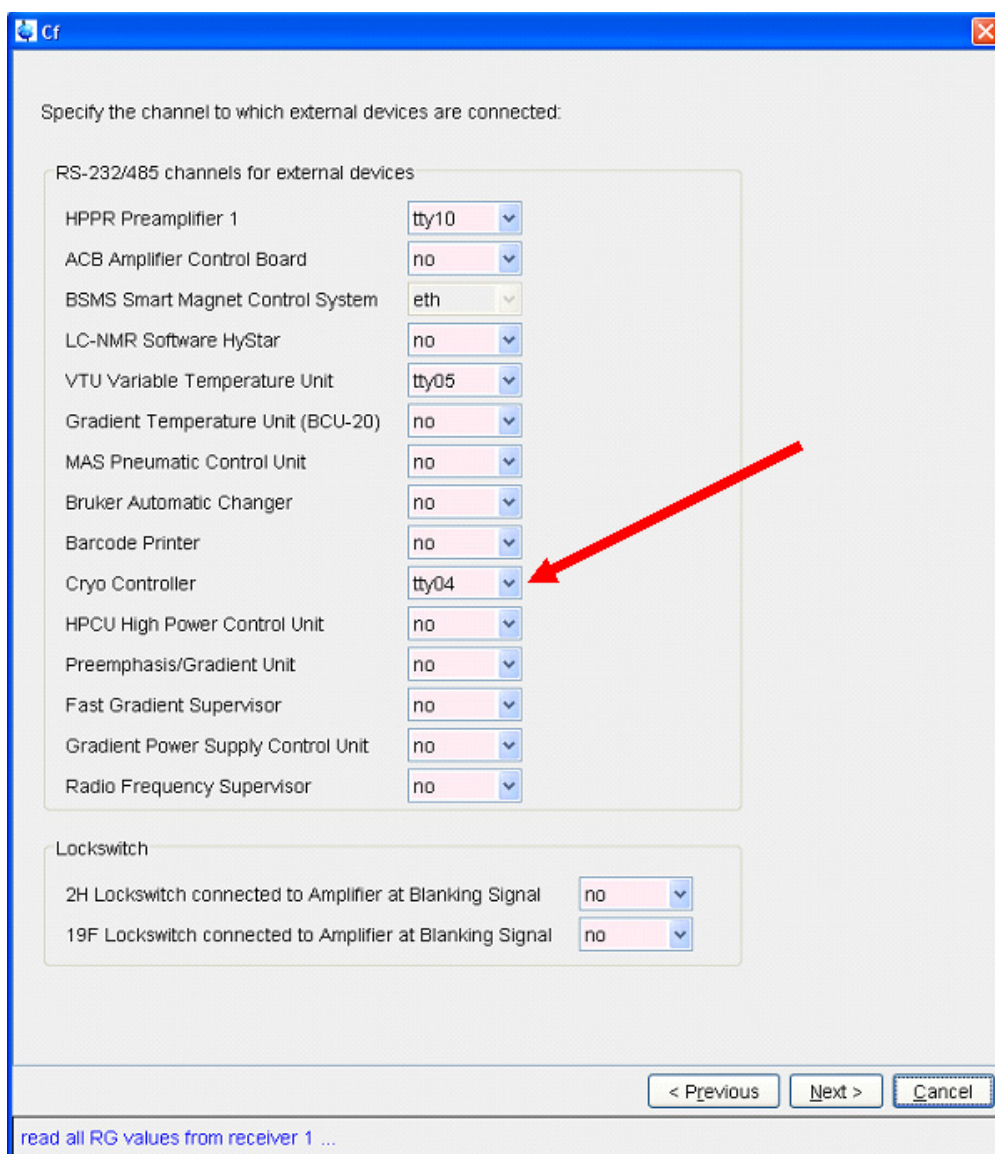

Figure A.1. External Device configuration page of the 'cf' routine in TopSpin, indicating where the Cryo Controller device is connected.
3. TopSpin Configuration - Start TopSpin, execute a 'cf', and select the appropriate TTY port (from Step A.1.1) for the Cryo Controller in the list of RS-channels (see Figure A.1).